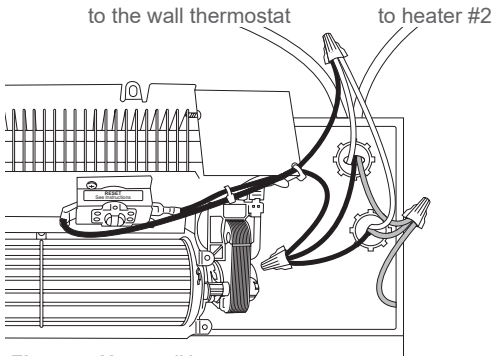

Figure 7 Heater #1
2. There are two supply ground wires in the wall can of heater #1 (See Figure 7). Connect the green ground wire in the wall can of heater #1 to each of the ground wires from each set of the supply wires (See Figure 7).